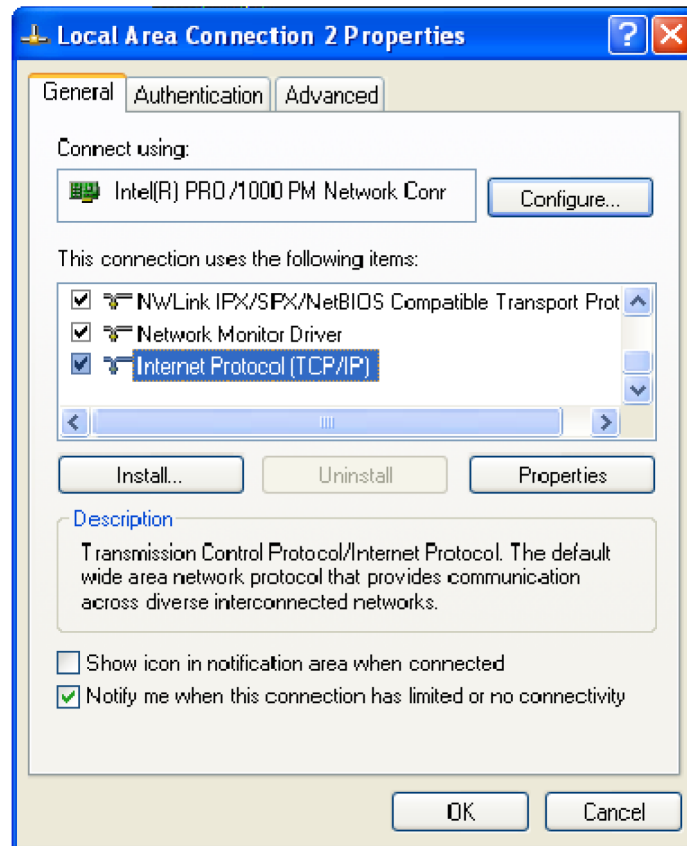

Figure 13: LAN Connection dialog box
6. Right click the Local Area Connection icon that corresponds to your local LAN card and select **Properties**. The Properties dialog box appears. (See Figure 13.)